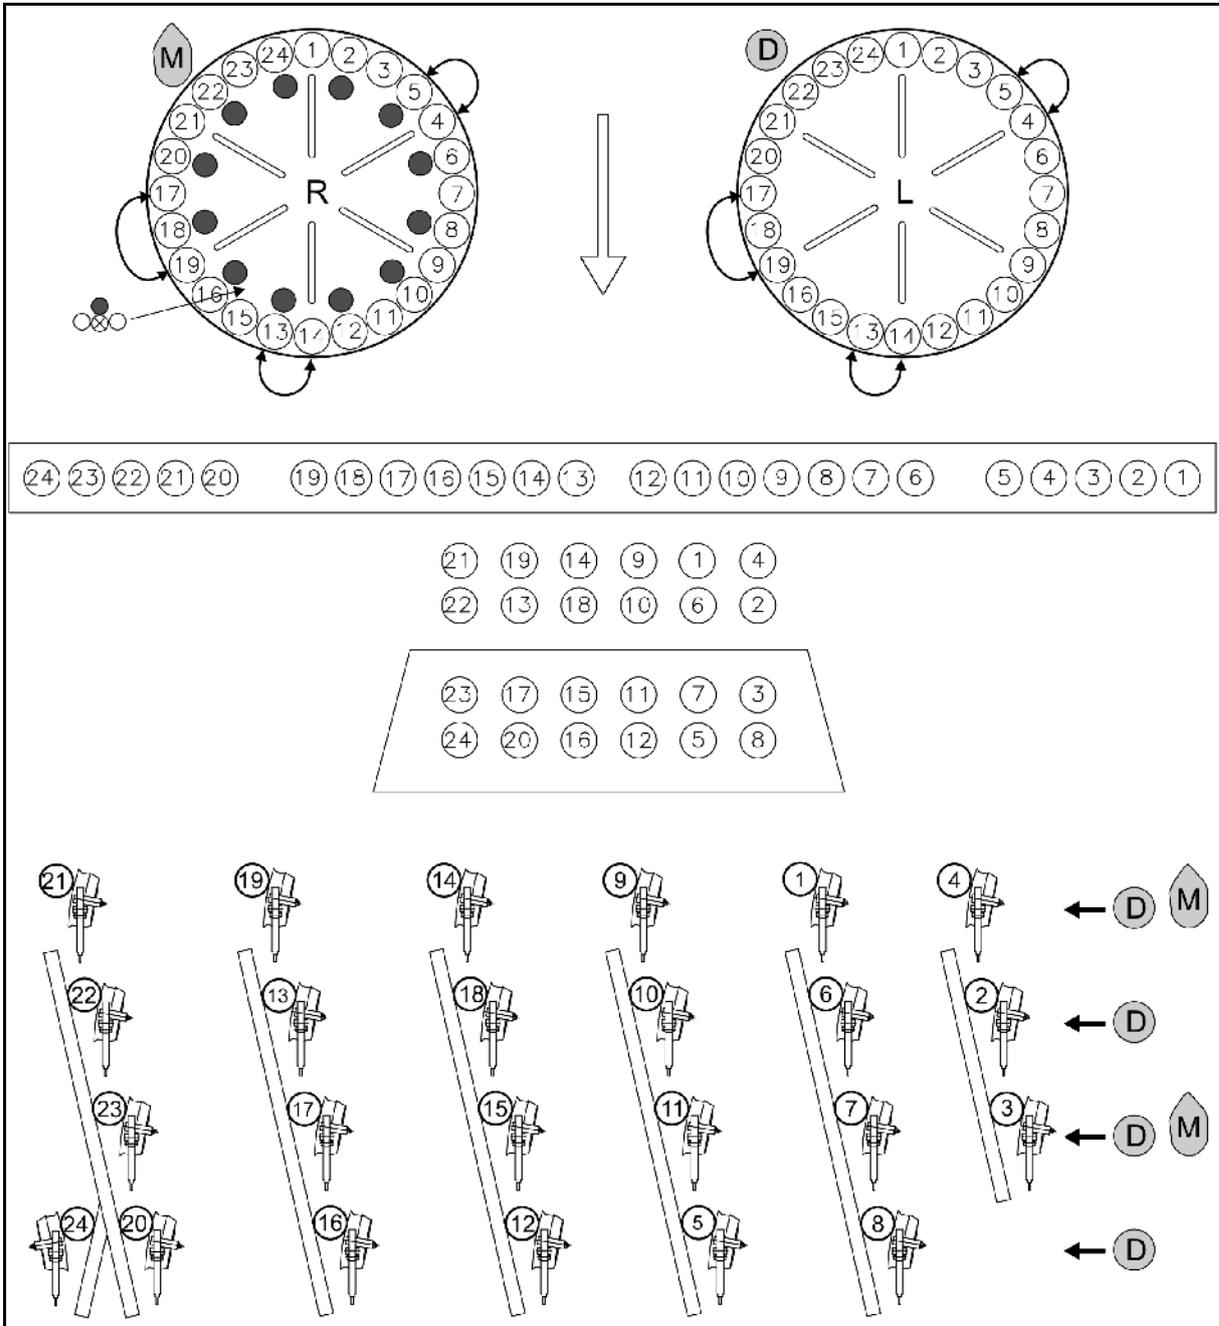

Fig. 45
- Maize ^M: Install the sealing plugs according to Fig. 45.